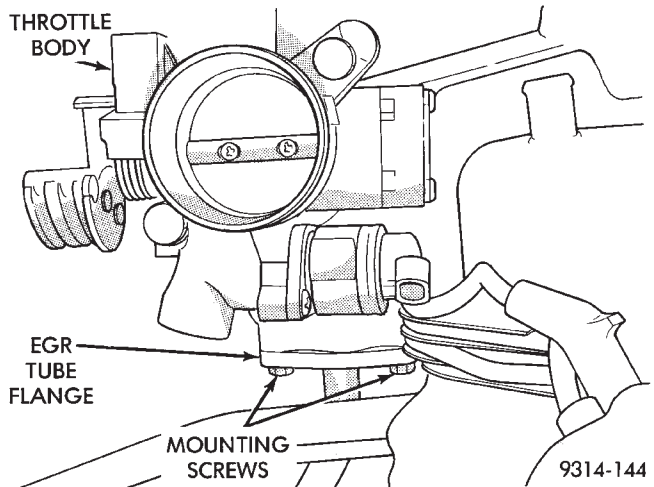

Fig. 18 EGR Tube
(9) Remove EGR tube mounting screws at intake manifold plenum (Fig. 18).